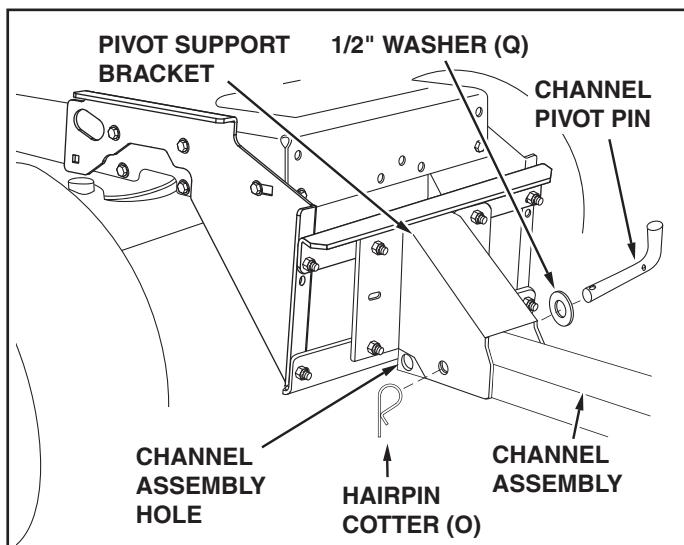

FIGURE 18
#### STEP 18: (SEE FIGURE 18)
- From the left side, insert the welded end of the lift handle rod through the hole in the end of the channel assembly (Figure 18). Next, insert the lift link pin through the hole in the bracket that is welded to the lift handle rod. (The lift link is pre-assembled to the pivot support bracket). Secure the bracket with a hairpin cotter (O) inserted up through the lift link pin.